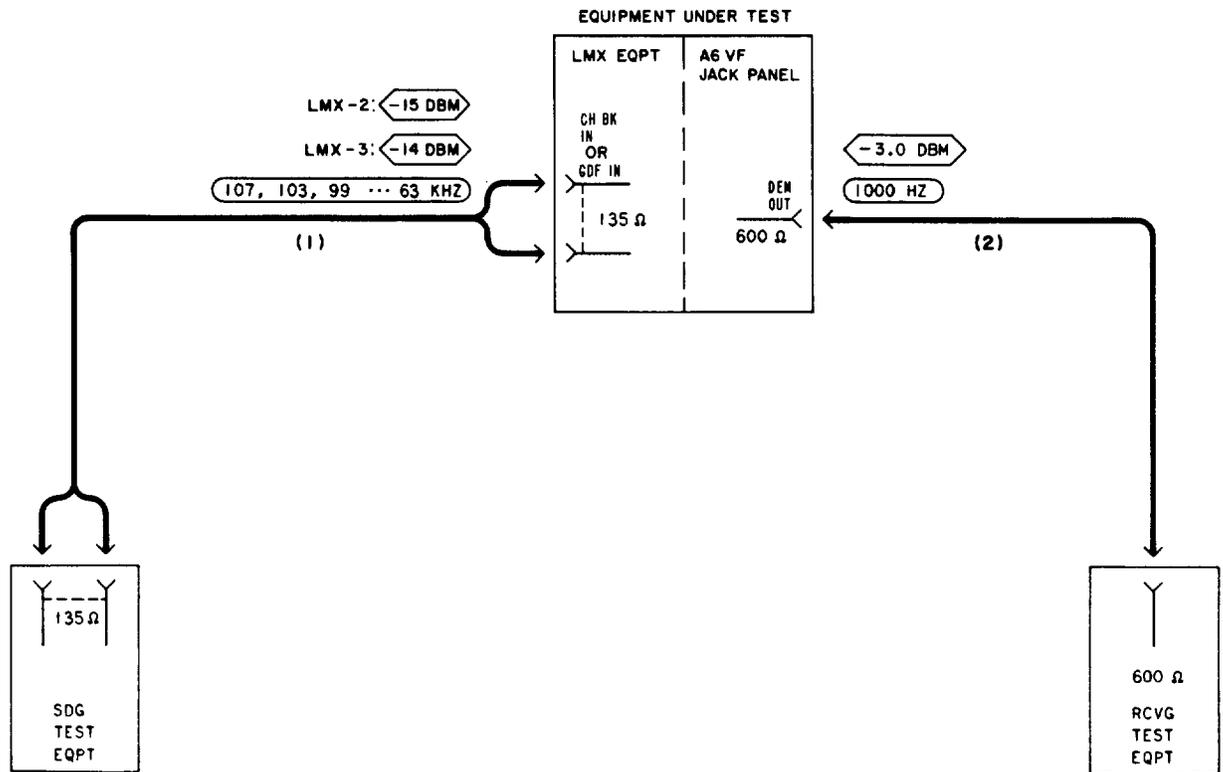

Fig. 5—Patching Diagram—Receiving Level Adjustment
3	At the LMX equipment, connect the STE to the CH BK IN (LMX-2) or GDF IN (LMX-3) jack [patch (1), Fig. 5].
4	Connect the RTE to the DEM OUT jack for the channel under test [patch (2), Fig. 5].
8	Remove patch (2), Fig. 5.
10	At the LMX equipment, remove patch (1), Fig. 5.